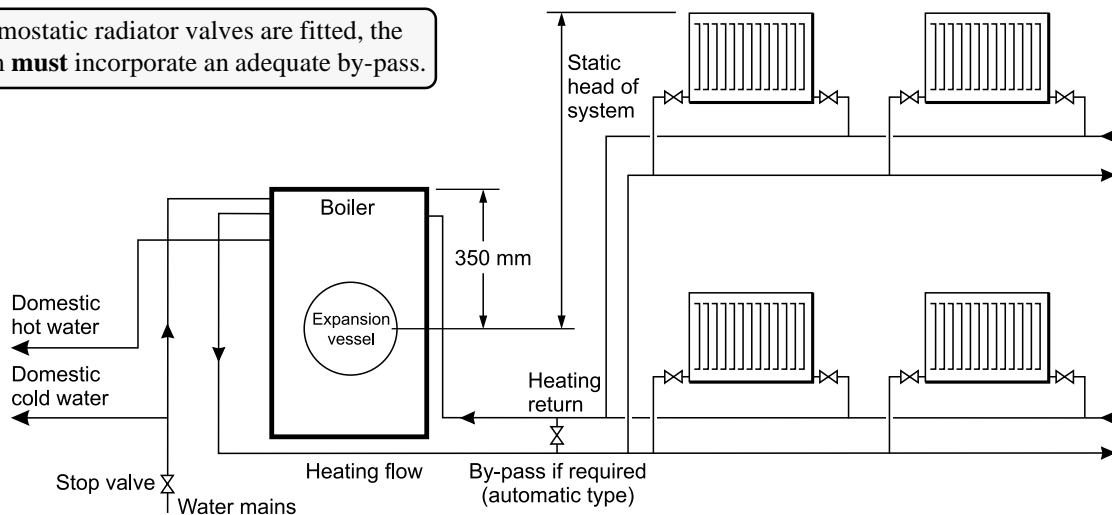

Fig. 13 - Sealed system
- 3 The minimum dimensions for positioning the flue terminal are shown in Fig. 13.
See Fig. 13
- 4 The system design pressure (cold) should be between 0.5 and 1.0 bar. This pressure is equivalent to the maximum static head (see Fig. 13) in bar + 0.3 (1 bar = 10.2 metres of water).